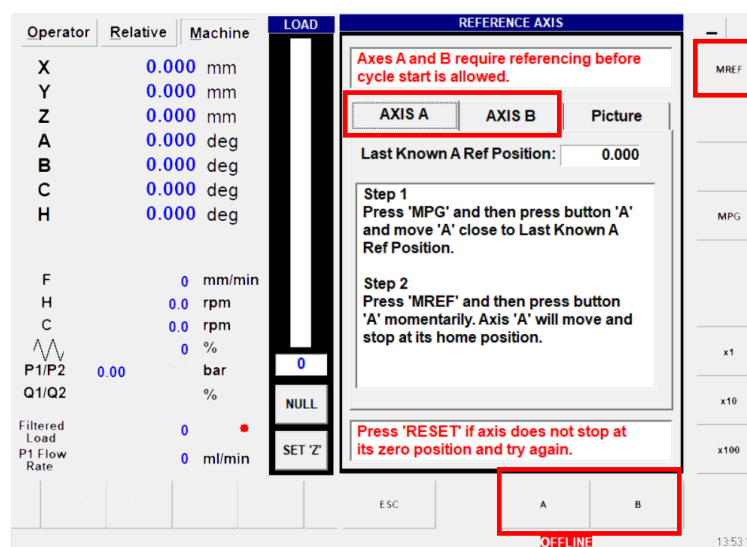

Figure 21 - Reference axis A
- When complete and the MACHINE POSITION displays 0.000 mm for the A axis, now perform the same operation for the B Axis. See (Figure 21 - Reference axis A).